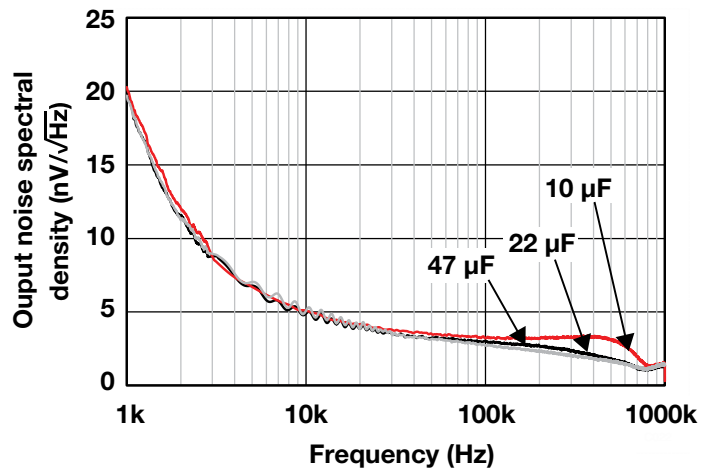
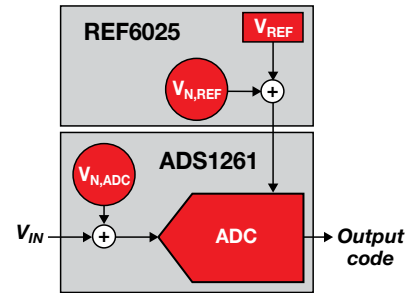

Figure 3. Output noise spectral density plot for the REF6025.
Figure 4. System setup using the ADS1261 and REF6025.
- **Point B.** This is the total noise when the input voltage is equal to the reference voltage—that is, a full-scale reading. In general, take the root sum of squares (RSS) of the reference noise and the ADC noise to determine Point B. However, when the reference noise is much larger than the ADC noise—as is the case in **Figure 2**—you can approximate Point B as just the reference noise. Either way, you generally cannot read the value of the voltage reference noise directly from the data sheet, since it depends on several factors including the voltage reference’s noise characteristics. **Figure 3** shows the output noise spectral density for TI’s REF6025, a 2.5-V precision voltage reference.
In **Figure 3**, note the significant increase in noise density at low frequencies (1/f [flicker] noise) compared to the relatively flat noise density at higher frequencies (broadband noise). Like several of the amplifiers analyzed in Section 3.2, reference noise performance is not necessarily constant over frequency.
For this example, let's continue using the REF6025 shown in **Figure 3** and pair it with the ADS1261, a 24-bit delta-sigma ADC. This device offers low noise and an integrated programmable gain amplifier (PGA), both of which will make the reference-noise-versus-gain relationship more apparent. Despite these choices, you can apply this analysis to any combination of ADCs and voltage references. **Figure 4** shows the system setup for this example.
Similar to the amplifier noise analysis in Section 3.1, you can separate the components in **Figure 4** into noiseless devices preceded by a voltage source that is equivalent to each component's noise. The ADC noise ($V_{N,ADC}$) is listed in the ADS1261's data sheet, while you must calculate the voltage reference noise ($V_{N,REF}$) using the REF6025 data sheet as well as the system ENBW. Fortunately, you can use the approximation methods I detailed in Section 2.2 to determine the system ENBW. In this case, the ENBW is 13 Hz using a 60 samples per second (SPS) output data rate (ODR) as well as the low-latency filter of the ADS1261. This yields approximately $1.2 \mu\text{V}_{\text{RMS}}$ of noise using the REF6025.